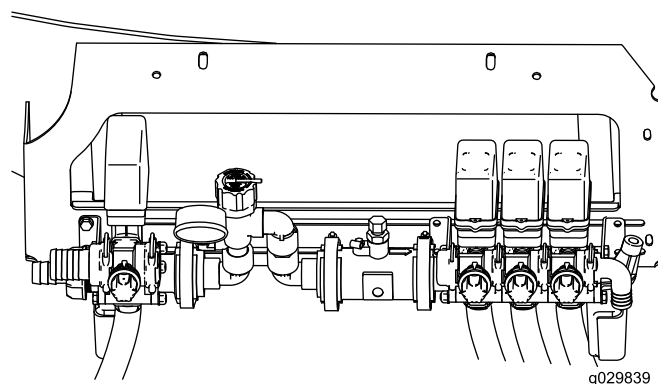

Figure 4
11. Carefully move the flowmeter and section valve assembly so that the flowmeter is flush with the pressure-relief assembly (Figure 4).